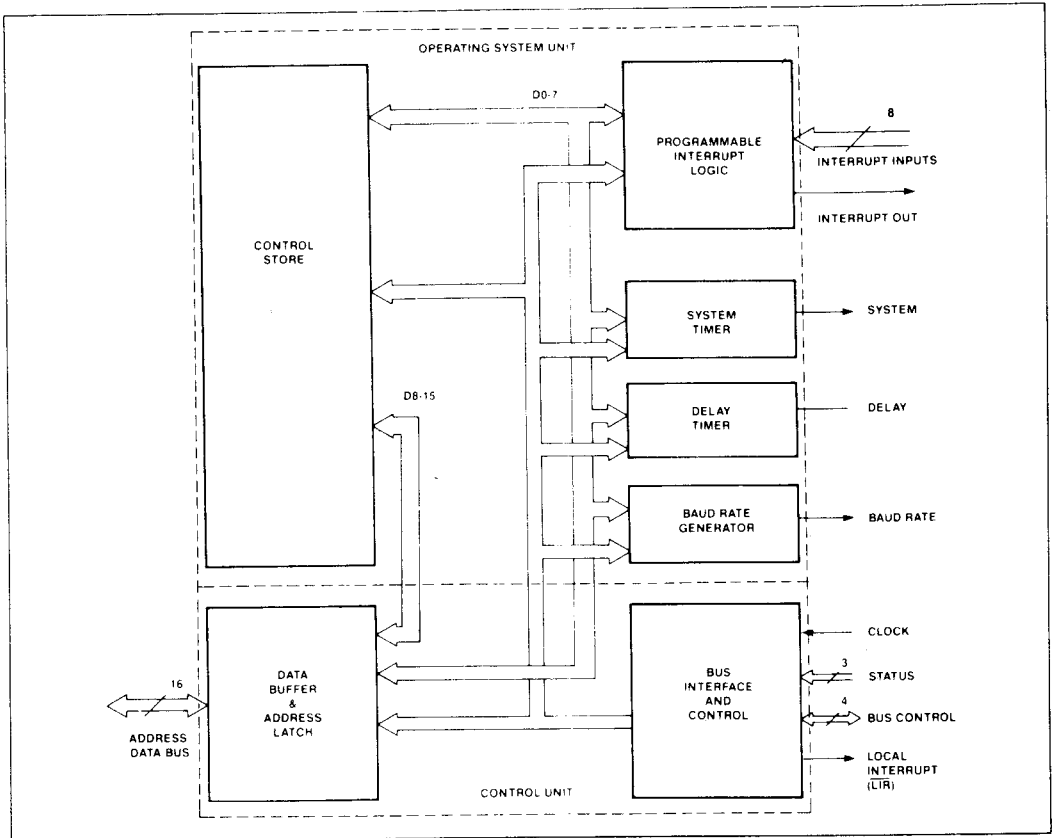

Figure 3. 80150 Internal Block Diagram
- A. Hardware. Figure 3 is a functional diagram of the 80150 itself. CP/M-86 is stored in the 16K-bytes of control store. The timers are compatible with the standard 8254 timer. The interrupt controller, with its eight programmable interrupt inputs and one interrupt output, is compatible with the 8259A Programmable Interrupt Controller. External slave 8259A inter-